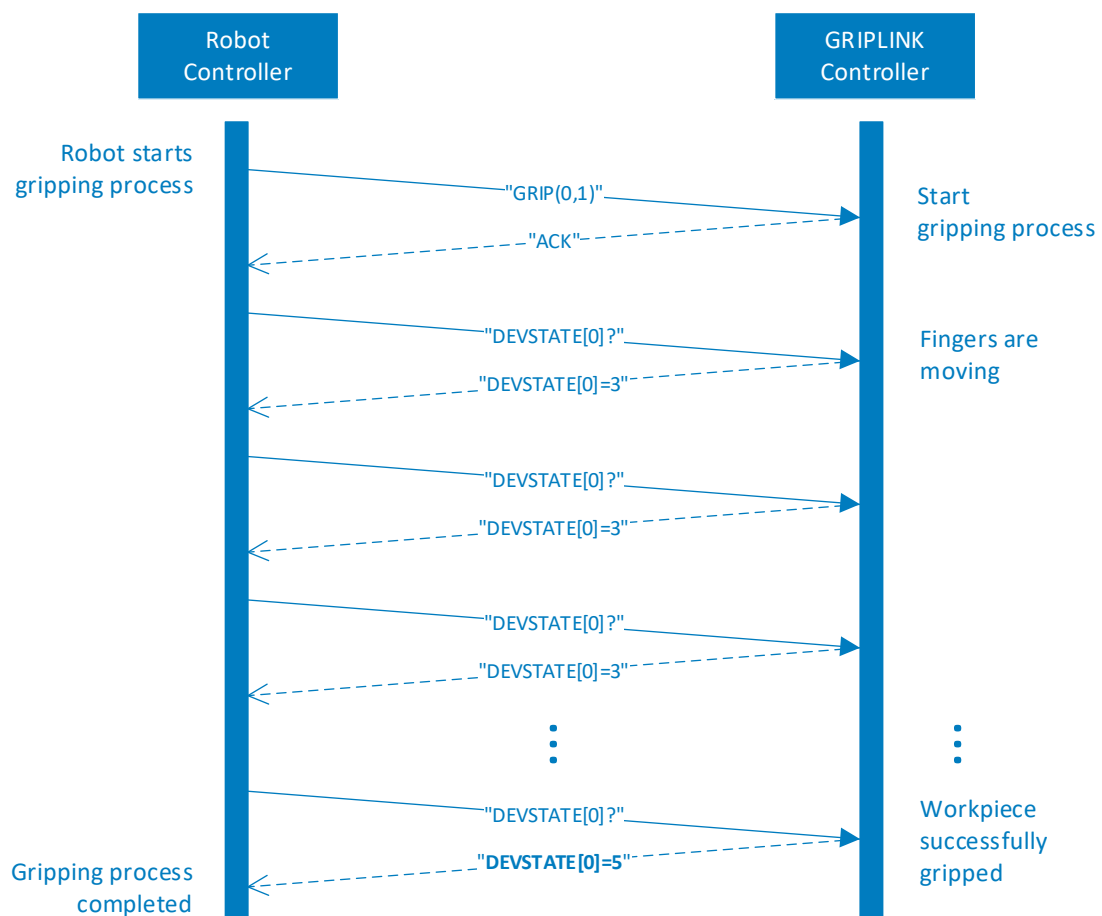

Figure 10: Gripping process sequence diagram
A command consists of the actual triggering of the action and the waiting for a change in status. This is shown in Figure 10 using the example of gripping a workpiece. The robot controller initiates the gripping command for the gripping module on device port 0 with parameter set 1 by sending the command word "GRIP (0,1)". The successful end of the gripping process is recognized by cyclical polling of the device status with the command word "DEVSTATE [0]?" (Device status changes from RELEASED (3) to HOLDING (5)). Note: If no part to be gripped was found, the device status would change to NO_PART (4) or, in the event of an error such as overtemperature or device malfunction, to FAULT (7).